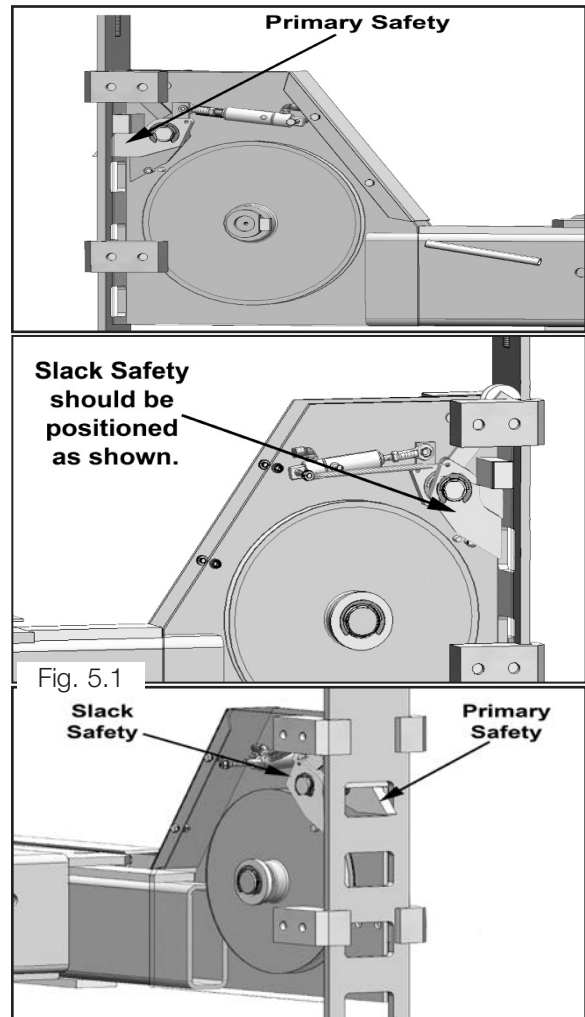

Fig. 5.1
2. Manually raise the Cross Tubes until the primary Safety Locks engage and rest on the lock position second down from the top of the ladder or approximately 66" off the ground. It is important that the SLACK SAFETY LOCK IS CLEARED. The Slack Safety Lock must never rest on the Safety Ladder. (See Fig. 5.1)